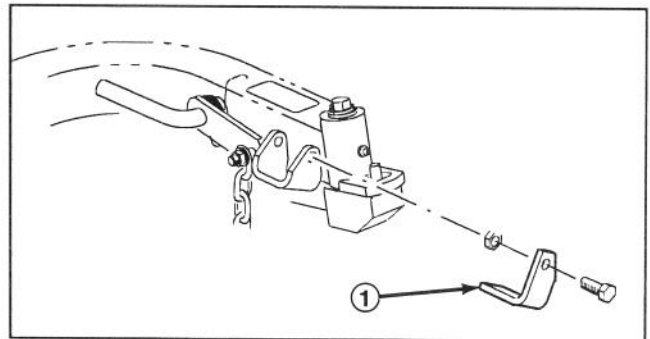

Figure 11
6. (Model 03501 only) On left rear lift arm only, mount a cutting unit stop with a 3/8-16 x 1" capscrew and locknut. Position stop as shown in fig. 11.